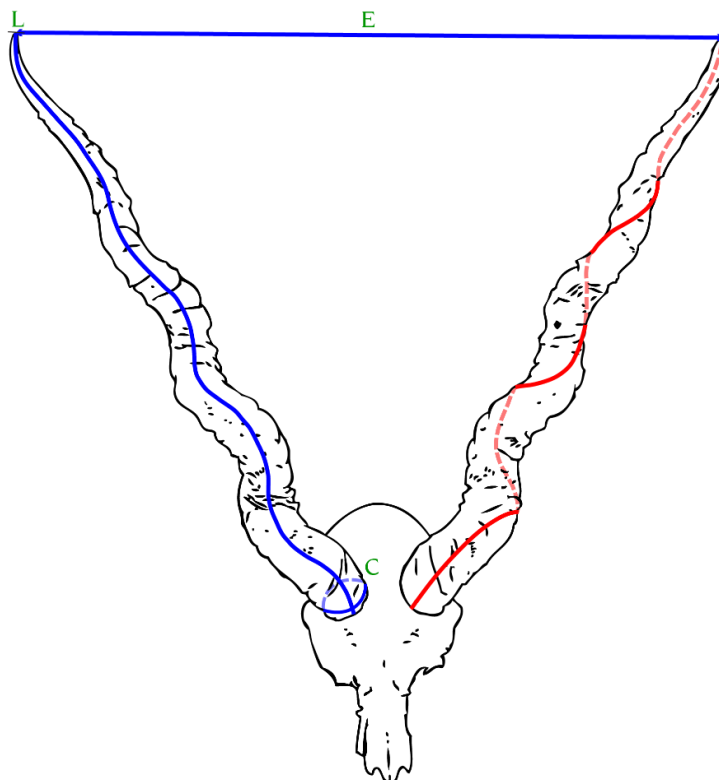

Figure 13 Blackbuck
1. Length. Measure the length of each horn on the front (on the top, center of the horns). Start at the base, hook the small lip on the cable on top of the horn at the base, stay on the center front of the horn to the tip. Follow the up and down contours of the horn, like a roller coaster, but stay on the front of the horn, with the cable touching the horn at all times. *Do not let the cable slide towards the side of the horns, and do not follow the spiral of the horn by twisting the cable around the horns.* (Figure 13)
2. Circumference. Measure the circumference of the base of each horn at a 90-degree angle to the axis of the horn near the base with a ringed tape. (Figure 13)
3. Tip to Tip. Measure the tip-to-tip value in a straight line from the center of the left horn tip to the center of the right horn tip. This is a required measurement. (Figure 13)